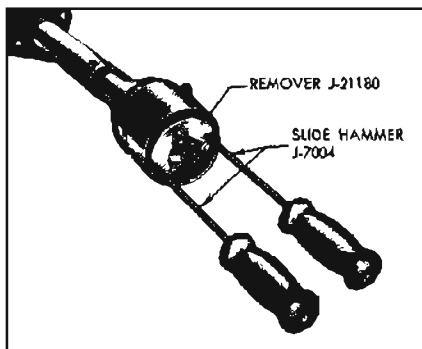

Figure 8-81—Removing Cover from Mast Jacket
5. Assemble two Slide Hammers J-7004 to Remover J-21180 and install inside cover as shown in Figure 8-81. Hold edges of remover J-21180 against rim of cover and evenly work cover off of mast jacket.